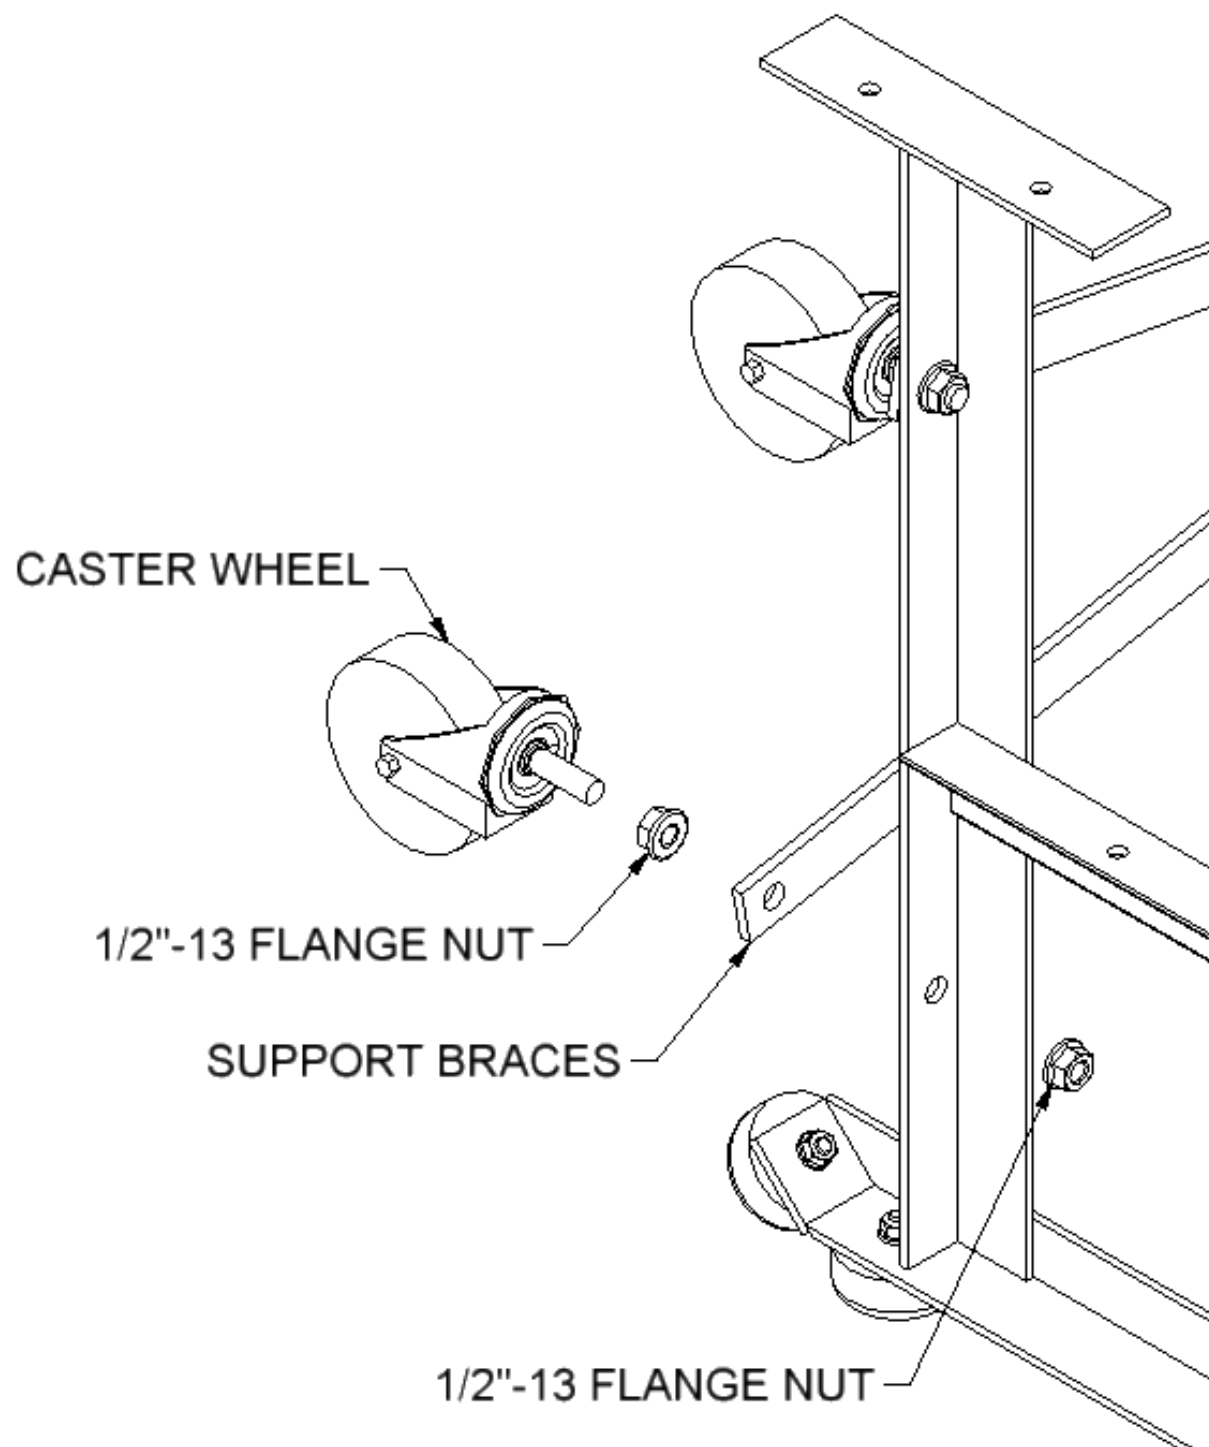

Figure 2
2. Install two wheel casters and support brace on the backside of each frame as shown in figure 2 - fully thread caster stem on, but tighten only finger tight.